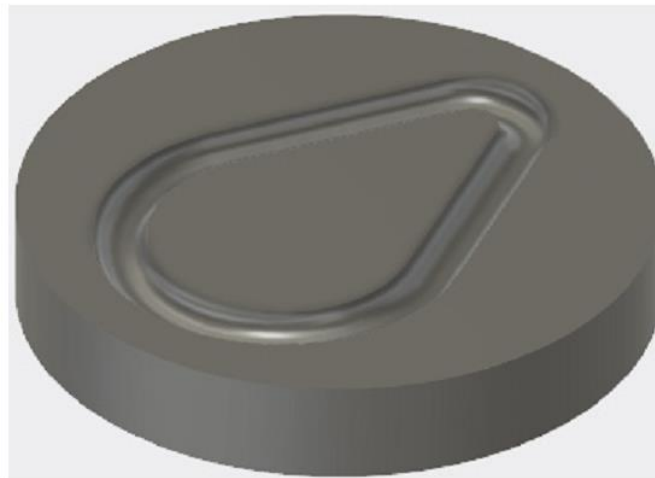

Figure 11–12
1. Sketch the arc shown in Figure 11–13 on the YZ workplane. This will be the profile for the sweep. When sketching the section, consider the following: